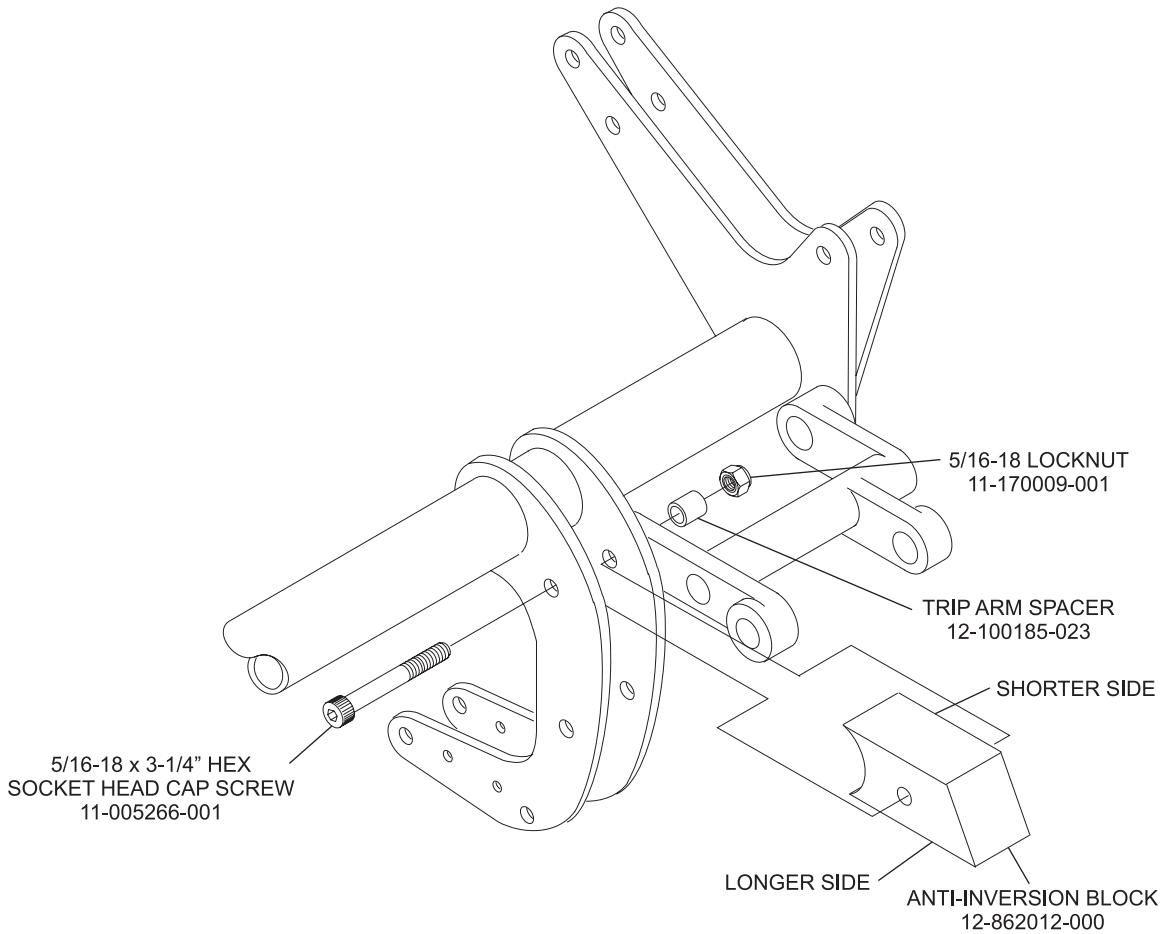

Figure 2
3. From the rear of the pinsetter, face the half circle end of the Anti-Inversion Block toward the front of the pinsetter with the shorter side facing up. Refer to *Figure 2*.
4. Slip the Anti-Inversion Block into place. The half circle end should seat against the tube of the rake lift arm and the holes in the Anti-Inversion Block should line up with the holes in the 2 rake lift arms. Lightly tap into place with a hammer if necessary. Refer to *Figure 2*.
5. Slide the 5/16-18 x 3-1/4" hex socket head cap screw (11-0052667-001) through the rake lift arms, the Anti-Inversion Block and the trip arm spacer. Secure using the 5/16-18 locknut (11-170009-001) provided. Refer to *Figure 2*.